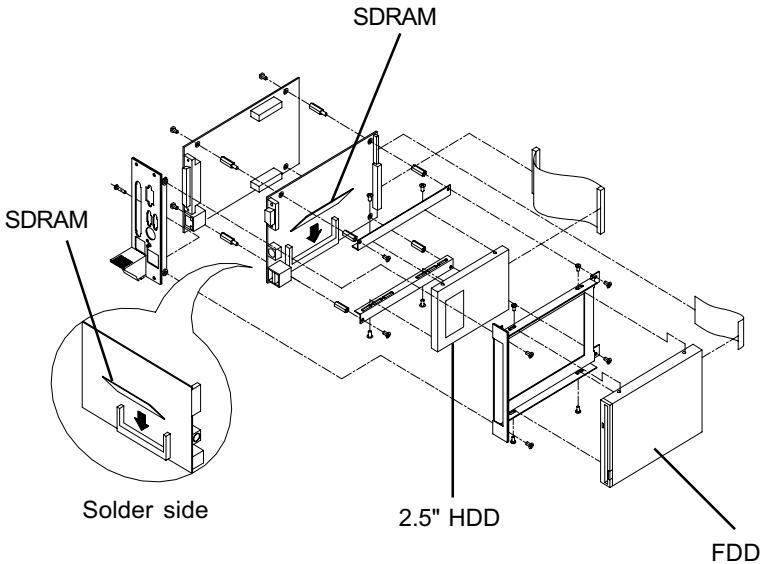

Figure 2-1: Installing hard disk drive and floppy disk drive
2. *To install the SDRAM module in the socket on the solder side, users need to disassemble the MIC-3351. Please refer to Figure 2-1 for details.*
One floppy disk drive can be connected to the MIC-3351 through the on-board connector. The 1-slot wide mounting bracket shipped with the MIC-3351 can accommodate one floppy disk drive. Please refer to Figure 2-1 for the assembling procedures.